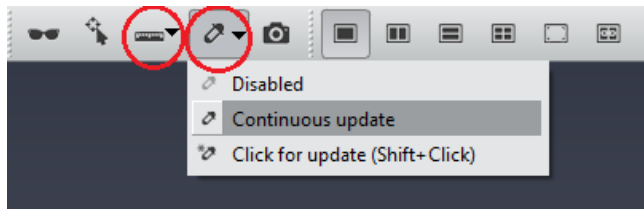

Figure 20.6: Quick Probe or Measure tool can be used to Estimate the Maximum Displacement
- Estimate the maximum displacement in this region. To do so, ensure that the Quick Probe from the Viewer Toolbar is set to *Continuous Update* (Figure 20.6) then place the mouse on the 3D viewer and read the coordinates displayed in the progress bar. Be sure to be on Interact mode (if not, press **ESC**).